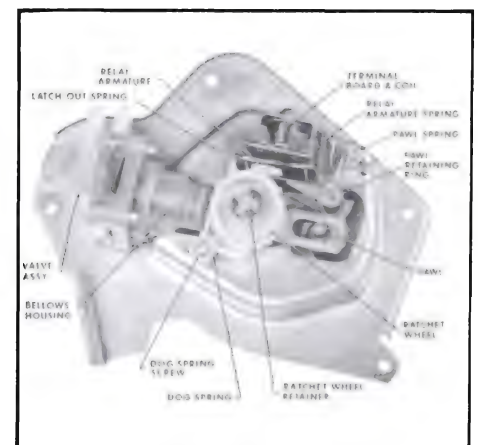

Figure 10-128—Washer Pump—Cover Side
A relay within the pump housing is energized anytime the washer button is depressed. See Figure 10-128. When energized, the armature is pulled up against the relay to release the ratchet pawl from the armature, allowing the ratchet pawl to engage the ratchet wheel teeth. At the same time, the relay armature hair spring trips to a position under the armature, holding it away from the ratchet wheel and ratchet pawl.
1. Remove washer pump cover. See Figure 10-128.